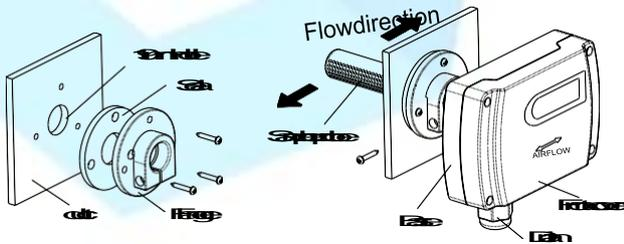

Fig.2
1. Install via the flange as Fig.2. Drill a $\phi 19$ mm hole on the duct, install the seal ring and the flange on, then insert the probe into, screw to lock the whole enclosure on the flange.